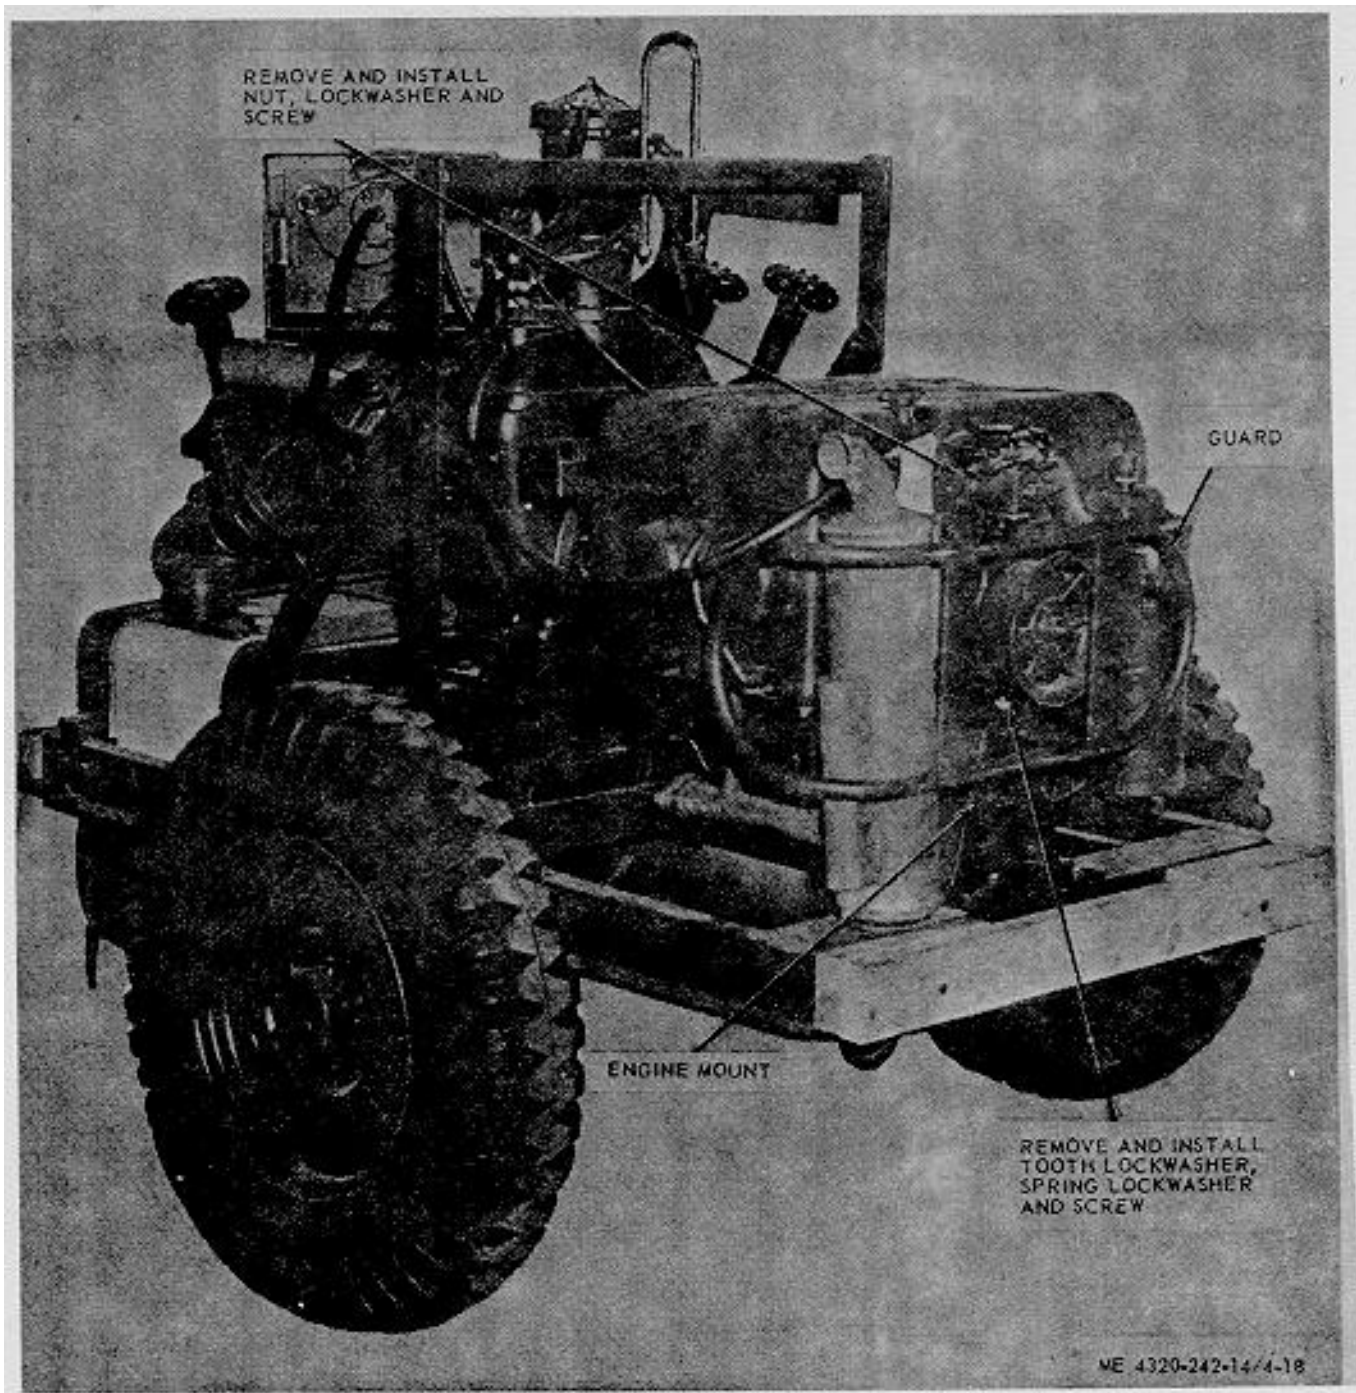

Figure 4-18. Pulley and muffler guard, removal and installation.
a. *Removal.* Refer to figure 4-18 and remove pulley and muffler guard.
(1) Clean guard with cleaning solvent PD-680; dry thoroughly.
(2) Inspect guard for breaks, bends, and other damage. Straighten bends and repair breaks or cracks by welding.
(3) Inspect mounting hardware for damaged threads. Replace damaged mounting hardware.
c. *Installation.* Refer to figure 4-18 and install pulley and muffler guard.
(10) Remove muffler and pulley guard. fig. 4-18).
(11) Pull engine from pump assembly and lift from trailer frame.
(12) Remove the four screws and lockwashers securing the spline coupling to the engine flywheel and remove the spline coupling. Remove the pilot bushing from the spline coupling.